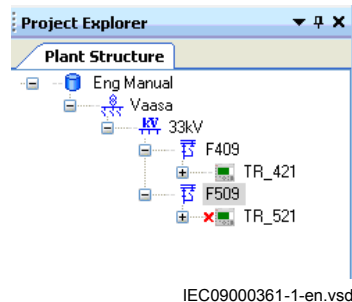

Figure 17: Plant structure showing IED TR_421 in online mode and IED TR_521 in offline mode
It is possible to judge whether the inserted IED is in offline mode or online mode from the plant structure. A red color cross before the IED symbol indicates the offline mode as shown in Figure 17.
6. Cross-check that the IED whose IP address has been inserted has been detected online by PCM600, see Figure 17.